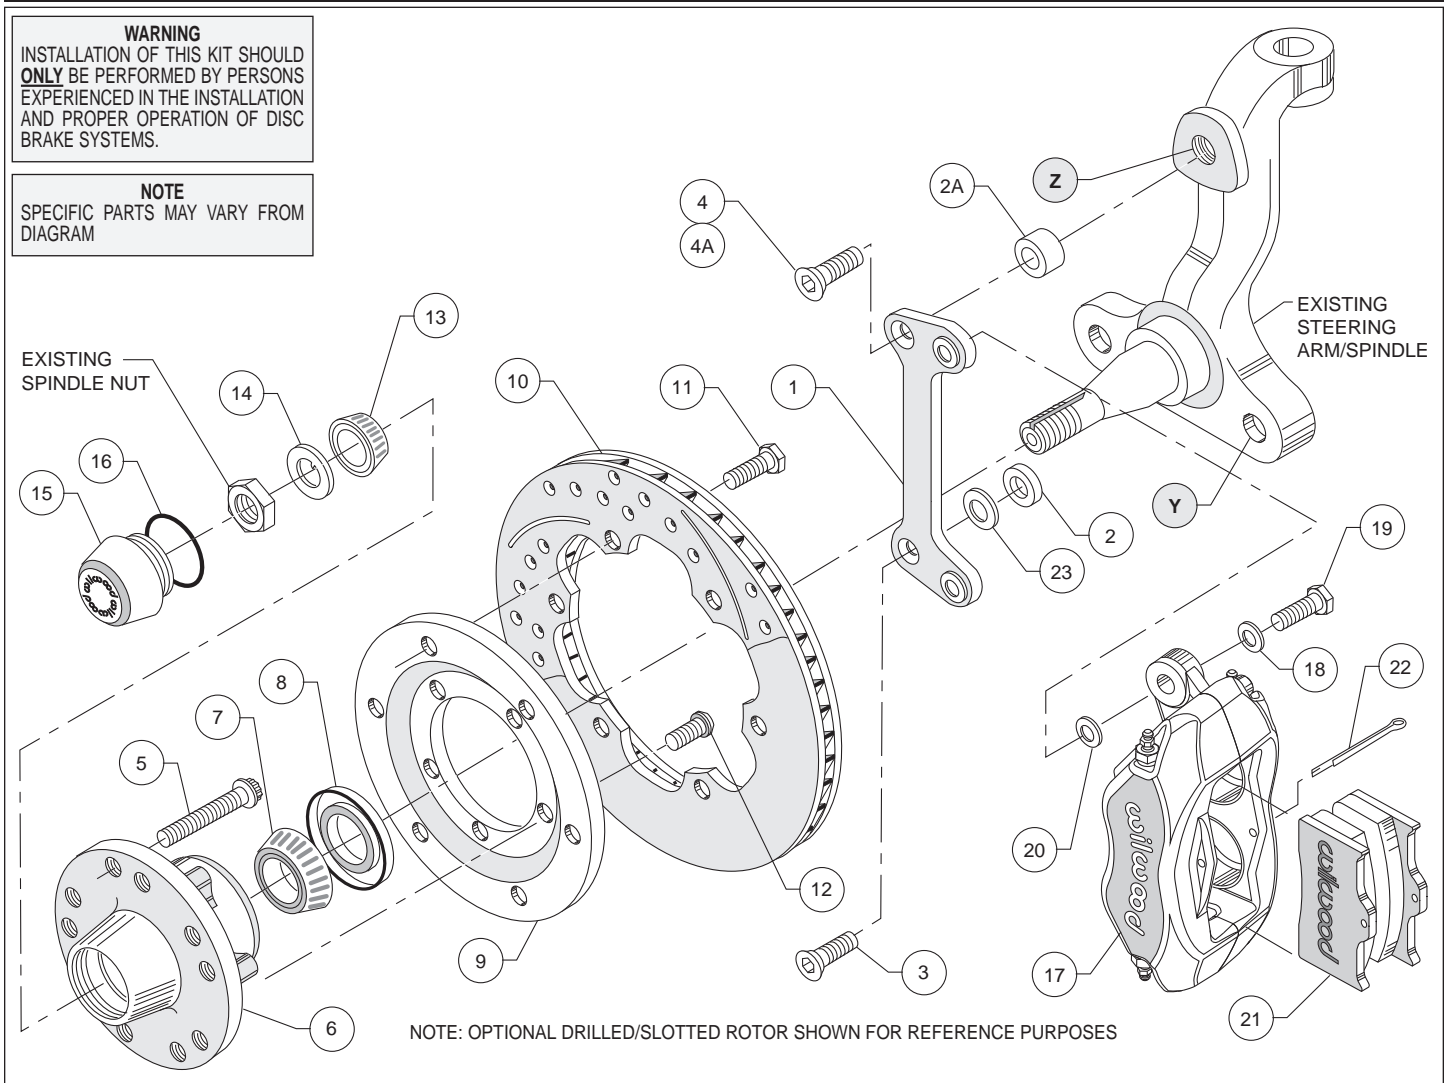
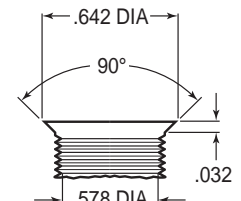
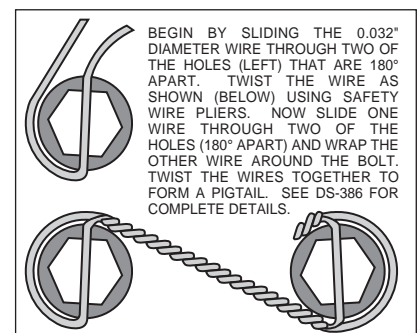

Figure 1. Typical Installation Configuration
Figure 3. Drill and Tap Detail
Figure 4. Safety Wire Diagram
•**NOTE:** 1964-66 spindles may require the following modifications (reference Figure 1 and Figure 3): Top anchor pin hole (Z) must be drilled and tapped to the dimensions as outlined in Figure 3. Bottom rear steering arm bolt hole (Y) in the spindle and steering arm must be enlarged to .50" by drilling. A 1/2-20 backing nut (not supplied in kit) will need to be acquired to torque bracket / steering arm bolt (supplied in kit).
•Apply red *Loctite*® 271 to bolt threads (3 and 4, or 4A for disc spindle application) before assembly of the caliper mounting bracket (1). Mount bracket (1) to dust face plate of spindle using the bottom bolt (3) while positioning spacer (2) between bracket and spindle face, finger tighten only. Install the upper bolt 4 (or, for disc brake spindle, use 4A with spacer 2A positioned between bracket and top hole of spindle face), torque to 120 ft-lb. Torque bolts (3) to 77 ft-lb. **NOTE:** Be sure the heads of the bracket (1) insert nuts are facing outward toward the wheel. **NOTE:** Because of a tolerance variation among spindles, it may be necessary to install a shim washer (23) between the spacer (2) and the bracket (1) in order to square the bracket to the rotor.
•Install wheel studs (5) into the hub (6). Torque to 77 ft-lb. **NOTE:** There are two five lug patterns in the hub (5 x 4.50 and 5 x 4.75). Make sure of the correct hole pattern for the correct wheel application before installing studs into hub.
•Pack the large inner bearing cone (7) with high temperature disc brake bearing grease (available from your local auto parts store) and install into the backside of the hub (6).
•Install the grease seal (8) by pressing into the backside of the hub (6).
•Attach rotor adapter plate (9) to rotor (10) using bolts (11). Torque bolts (11) to 180 in-lb. Safety wire bolts (11) using standard 0.032 inch diameter stainless steel safety wire as shown in Figure 4. Please refer to Wilwood's data sheet DS-386 (available at www.wilwood.com/Pdf/DataSheets/ds386.pdf) for complete safety wire installation instructions. **NOTE:** Dished side of adapter plate (9) should face hub (6). The mounting tabs on the rotor (10) should face toward the hub as well and line up with the holes on the adapter plate (9).
•Mount the adapter/rotor assembly (9/10) to the hub (6) using bolts (12) (finger tight), as shown in Figure 1. Using an alternating sequence, remove bolts one at a time, apply red *Loctite*® 271 to the threads, and torque to 55 ft-lb.
•Pack the small outer bearing cone (13) with high temperature disc brake bearing grease and install into front of hub (6). Slide the hub/rotor assembly (6 and 10) with outer bearing cone (13) onto the spindle. Secure using spindle washer (14), stock adjusting nut and nut locking device. Adjust bearings per Original Equipment Manufacturer (OEM) specifications.
- Install the dust cap (15) onto the hub (6). Friction created by the o-ring (16) on the dust cap (15) keeps it from unscrewing. The O.D. of the existing spindle washer may be larger than the I.D. of the dust cap (15) not allowing it to seat against the hub face. Some grinding on the washer O.D. may be necessary to clear the I.D. of the dust cap (15).
- NOTE:** Please reference the caution statement at the beginning of the assembly instructions. Mount the caliper (17) onto the caliper bracket (1) using washers (18), bolts (19) and 0.032 inch thick shims (20) positioned between caliper and bracket. Finger tighten. View the rotor (10) through the top opening of the caliper (17). The rotor (10) should be aligned in the center of the caliper (17). If not, adjust the caliper (17) by using 0.032 inch thick shims (20) placed between the caliper mounting bracket (1) and the caliper (17). Finger tighten and recheck alignment. Add as many shim washers (20) as necessary to achieve the correct alignment. **NOTE:** The end of the bolt must be flush with or slightly protruding from the head of the clinch nut. See Figure 4. Place spare shims (20) between washer and caliper mounting ear to achieve the proper mounting fastener configuration. Always use the same amount of shims on both the top and bottom caliper mounting bolts (19). Apply red *Loctite*® 271 to bolt threads (19) and torque to 40 ft-lb. Safety wire caliper bolts (19).